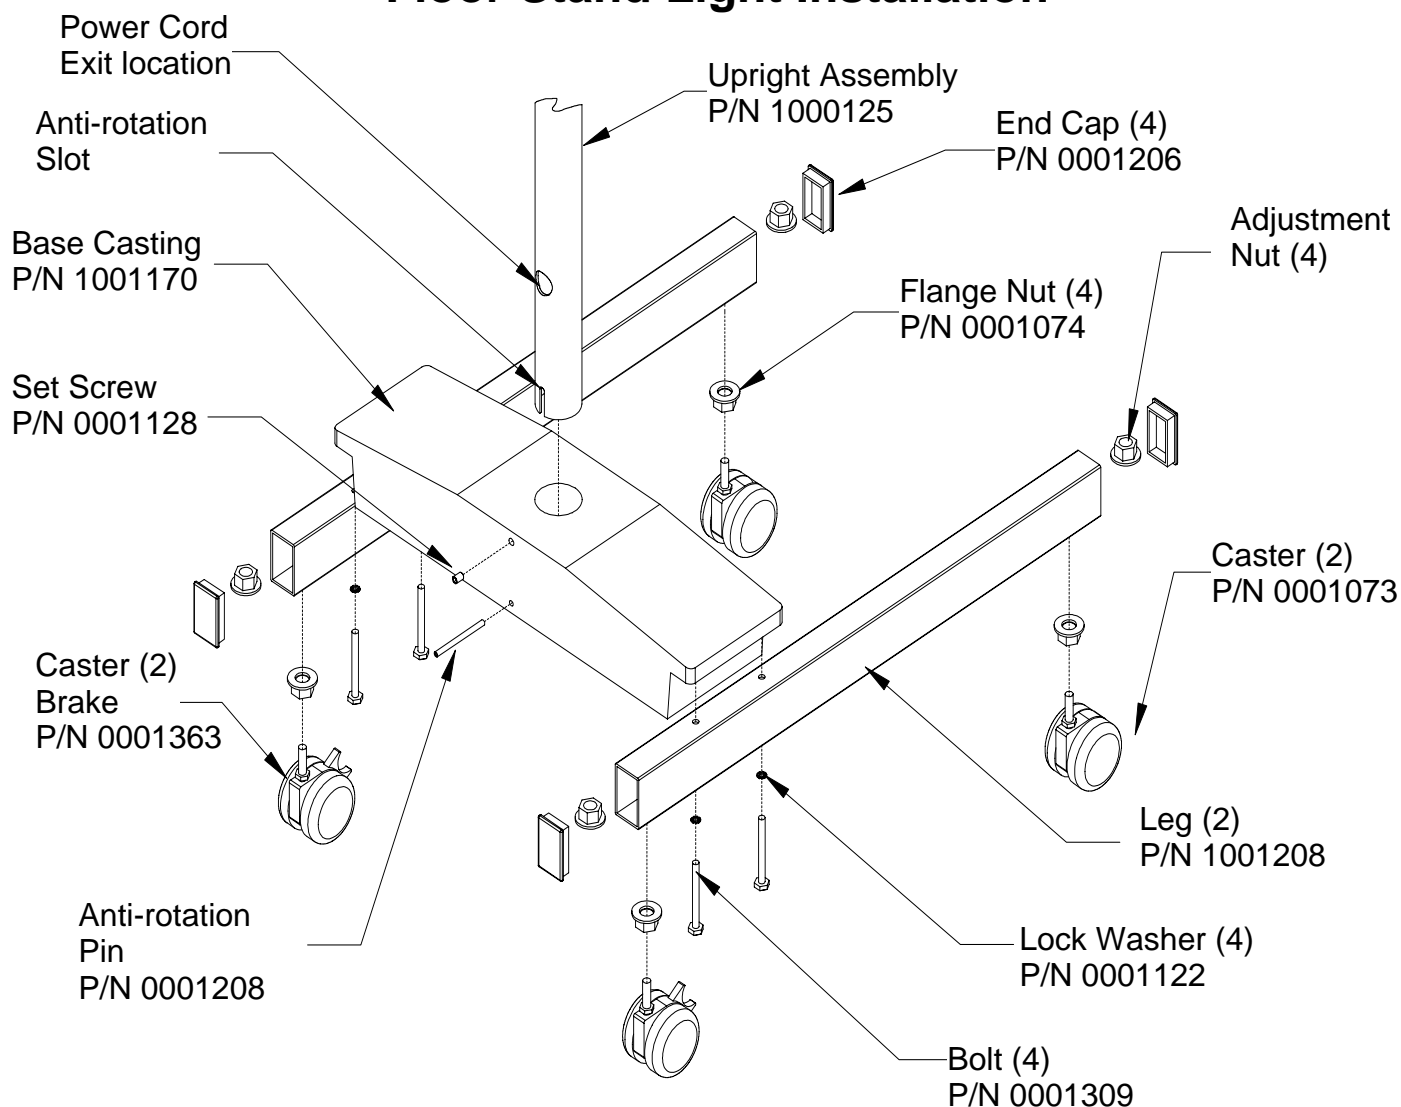

FIGURE 13: Floor Stand Light Installation
- Bolt the assembled legs onto the cast iron base using four  $\frac{1}{4}$ "-20 x  $1\frac{3}{4}$ " bolts and  $\frac{1}{4}$ " lock washers. Position the floor base casting so that the set-screw in the base is at the rear of the assembly. See figure 13.
- To level the base, remove the end caps at the end of each leg and adjust the caster bolts and nuts. Once the base has been leveled, tighten the nuts securely and insert the leg cap in the end of each leg. See figure 13.